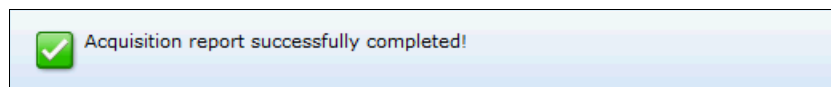

Figure 9-69 Successful completion of acquisition report
9. A message displays showing that the UXSPI acquired the possible updates for the machine, as shown in Figure 9-69. Click **Next**.